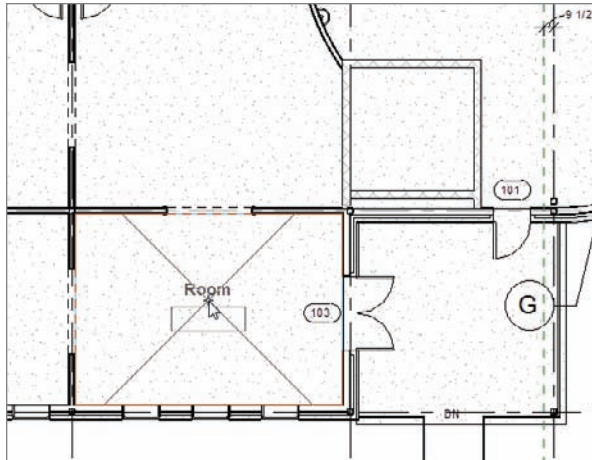

FIGURE 15.2 When you hover your mouse over the intended area of the room, you will see an indication that Revit has found the bounding edges.
3. Hover your cursor over the southeast room, as shown in Figure 15.2. Notice that there is an X and the outline of a room tag.